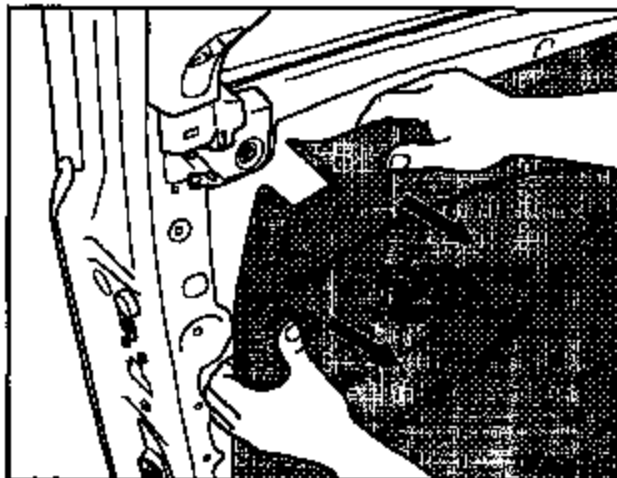

Figure 4
- b. Carefully pull out on the Inner Door Panel to release all remaining securing clips (see Figure 4).